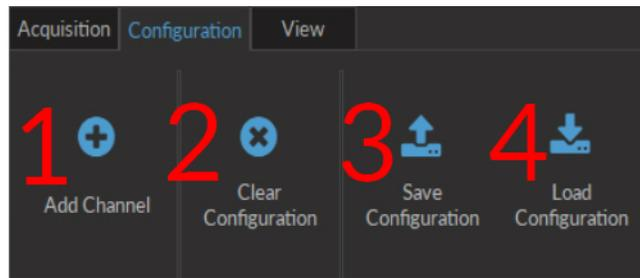

Figure 3.16: Configuration Tab
1. The **Add Channel** button (Fig. 3.16) opens the **Channels configuration** window. This window is detailed in section 3.1.1.
2. The **Clear configuration** button (Fig. 3.16) resets the acquisition view and all other parameters set. Any configurations already set will be lost.
3. The **Save configuration** button (Fig. 3.16) allows a console configuration to be saved in the **.doric** format. This file will only preserve the configuration of each current channel.
4. The **Load configuration** button (Fig. 3.16) allows a console configuration in **.doric** format to be loaded.